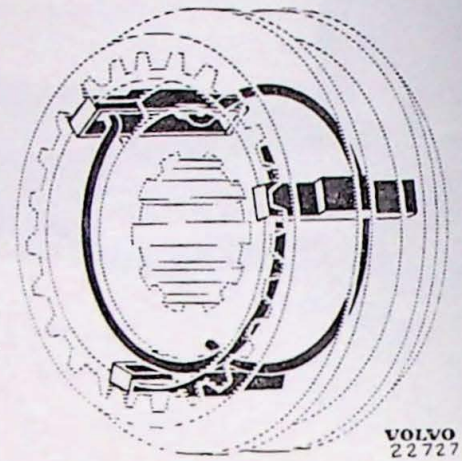

Fig. 3-23. Assembling synchronising mechanism
3. Fit the parts for 1st and 2nd speed synchronising mechanism onto the mainshaft. Fit the spring rings correctly, see Fig. 3-23.
Fit the spring rings correctly, see Fig. 3-23. Then fit the synchronising mechanism onto the mainshaft. Select a locking ring of the correct thickness, see Fig. 3-26, and fit it.